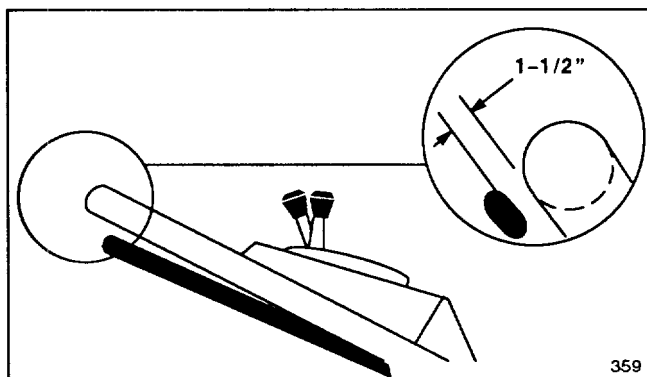

Figure 18
2. **CHECK ADJUSTMENT**—Adjustment is correct when rear wheels stop turning and control bar is about 1-1/2 inches from handle (Fig. 18).